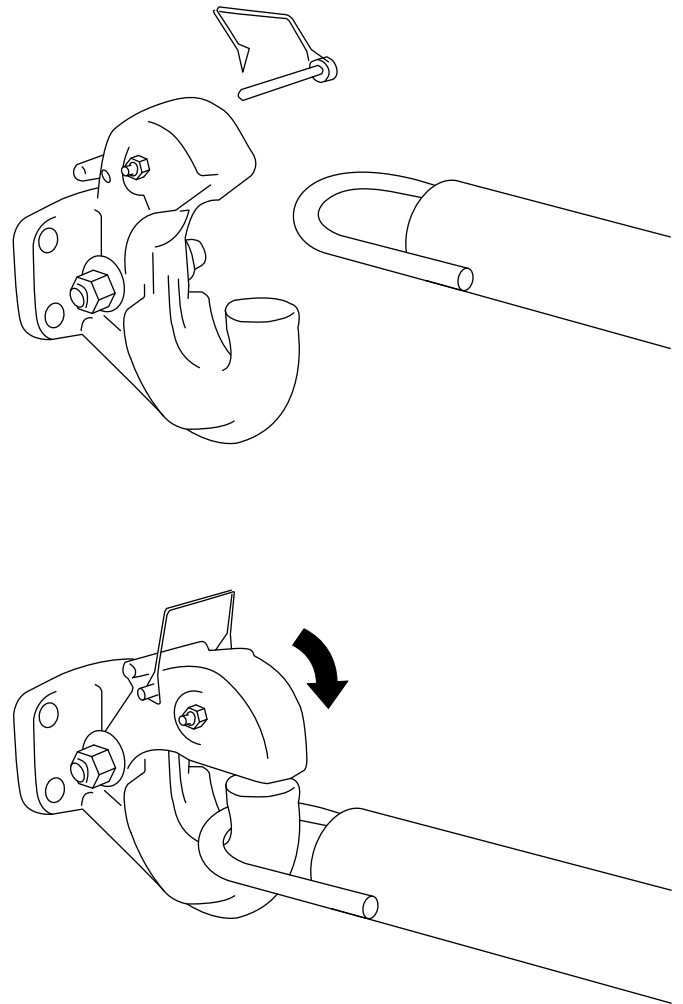

Figure 20
1. Remove the pin from the pintle hitch and open it (Figure 20).
2. Position the ring on the tow pole onto the hook of the pintle hitch (Figure 20).
3. Close the top of the pintle hitch and secure it with the pin (Figure 20).